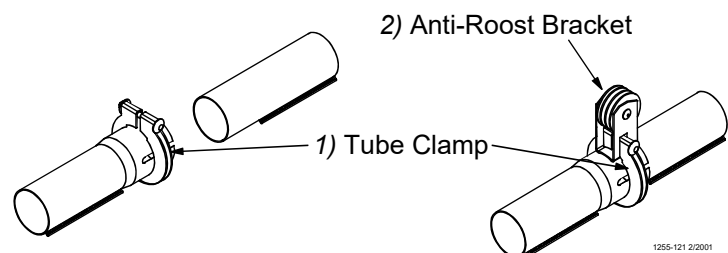

Figure 25. Tube Clamp and Tube Clamp with Anti-Roost Bracket
1. Rotate the auger tubes so that the seam is down, this holds the Pan Assemblies in place on the tubes. See **Figure 25.**
4. Place a Tube Clamp Assembly or Clamp/Anti-Roost Bracket at each joint. **Figure 25.** shows the standard Clamp and Clamp/Anti-Roost Bracket. Systems using 9' or 10' tubes require a Clamp/Anti-Roost Bracket at every **fifth** joint. Systems using 12' tubes require a Clamp/Anti-Roost Bracket at every **fourth** joint. All other joints in the system use the standard Tube Clamp Assembly.